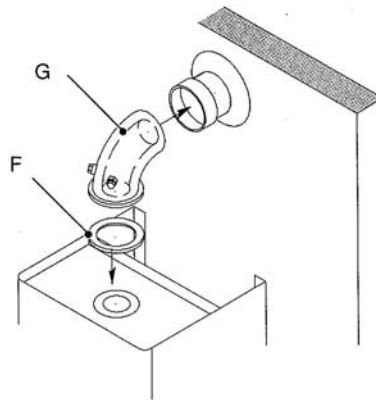

Figure 7
- Install the flange gasket (F) onto the boiler outlet as shown in Figure 7.
- Attach the boiler elbow (G) to the outlet of the boiler using the 4 screws (H).
- Slide the air intake pipe into the elbow so the intake gasket (D) fits over the elbow (G).